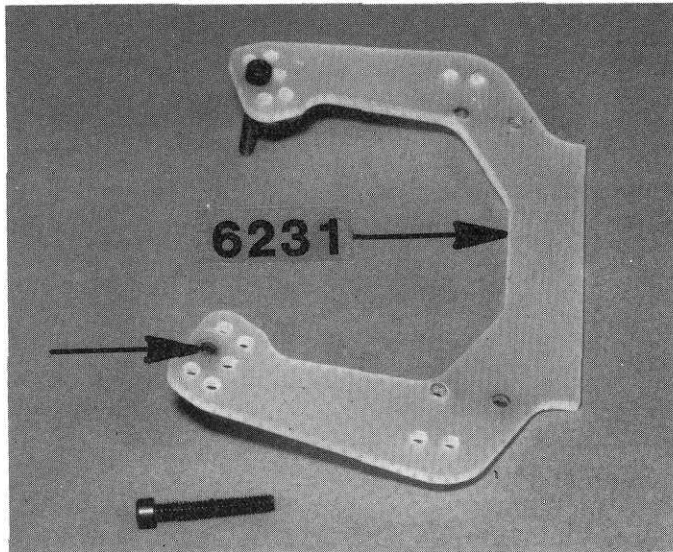

Fig. 14
□ **Fig. 14** Take the #6231 front shock strut out of the same bag. In Bag #6-10 take out 2 of the 4/40 screws and install them in the shock strut in the locations shown.